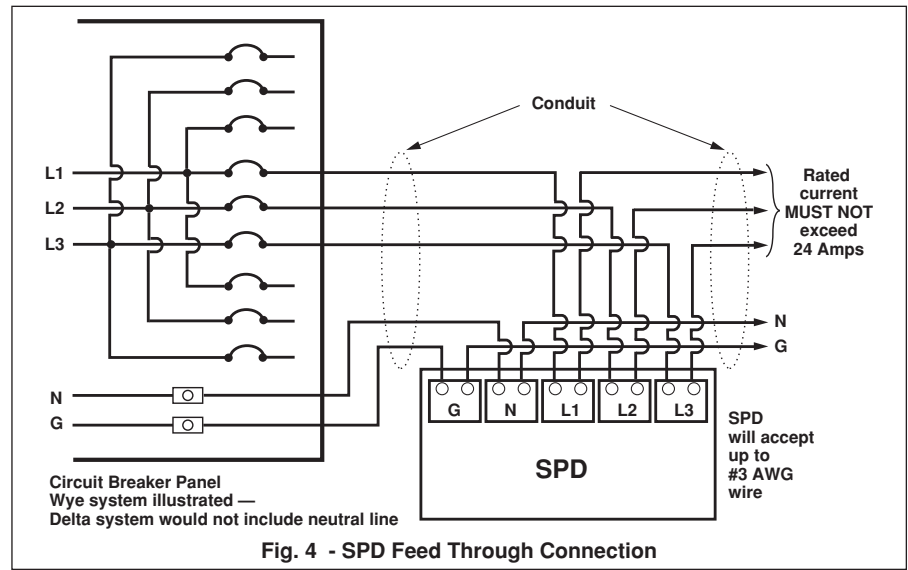

Fig. 4 - SPD Feed Through Connection
5. **Connections:** With the line **POWER OFF**, remove Terminal Block Cover and connect leads using the largest stranded wire size possible (#10 to #3 AWG) as illustrated in the wiring diagrams. **Screw terminal torque requirements:** #10 AWG (35 in.-lbs.), #8 AWG (40 in.-lbs.), #3 - #6 AWG (45 in.-lbs.). Connecting wire lengths from the circuit breaker panel to the 57000's terminal block should be minimal (less than 18" if possible). Power leads may be connected to L1, L2, and L3 without regard to phase A, B, or C. **Figs. 4** illustrate method for connection lead attachment.
In Method on Fig. 4, the SPD Panel provides a feed through connection between the circuit breaker panel and a load.
The ground terminal within the SPD Panel is connected to the metal enclosure. For isolated ground systems, the isolated ground wire should not be connected to the In-Out ground terminals. However, as indicated in step 5, the enclosure must be grounded via a ground conductor to the ground terminal. With the power OFF, connect phase leads to L1, L2, and L3 without regard to phase A, B, or C. Connect the neutral, for WYE systems, to the neutral terminal. Connect ground to ground terminal. **Fig. 4** illustrate connection system which use circuit breakers (either dedicated or load sharing). Connection leads should be cut to length and wrapped. **Avoid sharp bends.** Lead wire insulation should not be cut or damaged except to expose ends for connection.